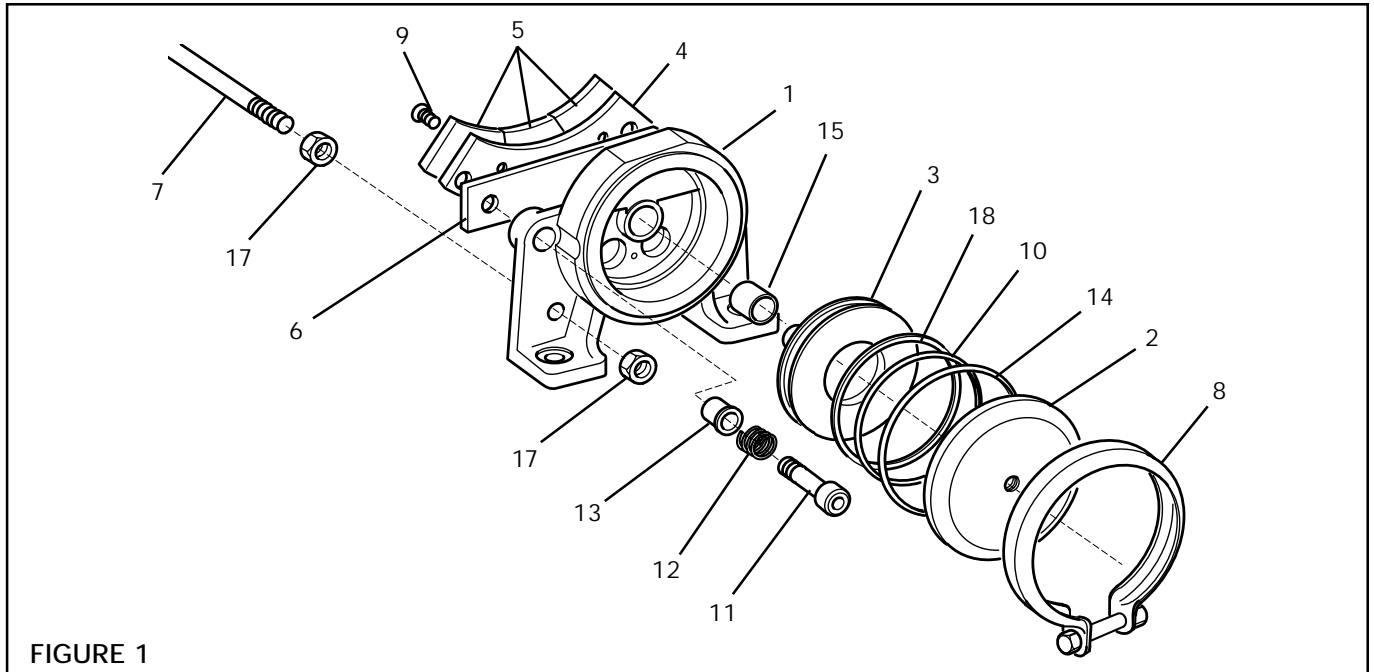

FIGURE 1
1. Remove Shoulder Screws (Item 11) and Springs (Item 12) (See Fig. 1).
2. Remove Spacer (Item 6), Shoe (Item 4), and Friction Facings (Item 5) (See Fig. 1).
3. Remove Machine Screws (Item 9), securing the Friction Facings to the Shoe (See Fig. 1).
6. Remove the Clamp Bolt from the Ring Clamp (Item 8) (See Fig. 1).
7. Remove the Ring Clamp (Item 8) (See Fig. 1).
8. From the back side of the Cylinder (Item 1), push the Piston (Item 3) and End Cap (Item 2) out of the Cylinder (See Fig. 1).
9. Remove the Back-Up Seal (Item 18) and O-ring Seal (Item 10) from the Piston (Item 3) (See Fig. 1).
10. Remove the O-ring Seal (Item 14) from the End Cap (Item 2) (See Fig. 1).
14. Install new O-ring Seal (Item 10) and Back-Up Seal (Item 18) onto Piston (Item 3) (See Fig. 1).
19. Insert Shoulder Screws (Item 11, and Springs (Item 12) through the Cylinder (Item 1), and Spacer (Item 6) (See fig. 1).
20. Screw the Shoulder Screws (Item 11) into the Friction Facing Shoes (Item 4) (See Fig. 1).